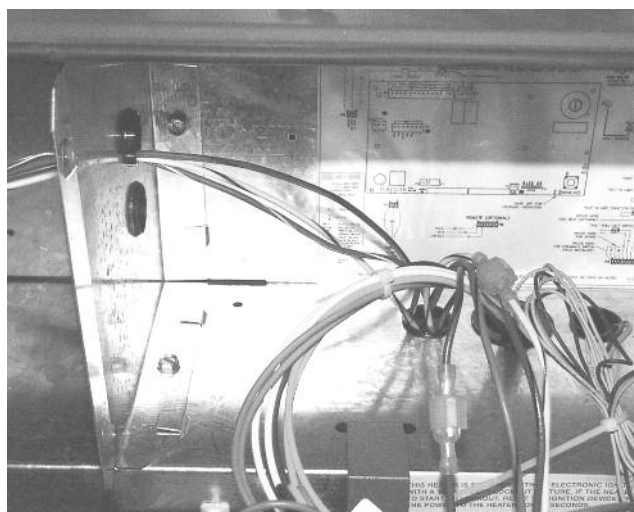

Fig. 20
20. Continue to route the harness down through any available grommet hole. See Fig. 20.